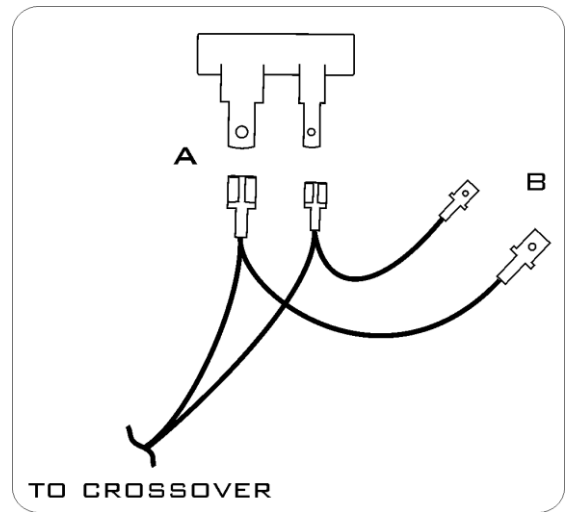

FIGURE 2
10. REFERRING TO FIGURE 2, CONNECT CROSSOVER WIRES TO SPEAKER TERMINALS (A).